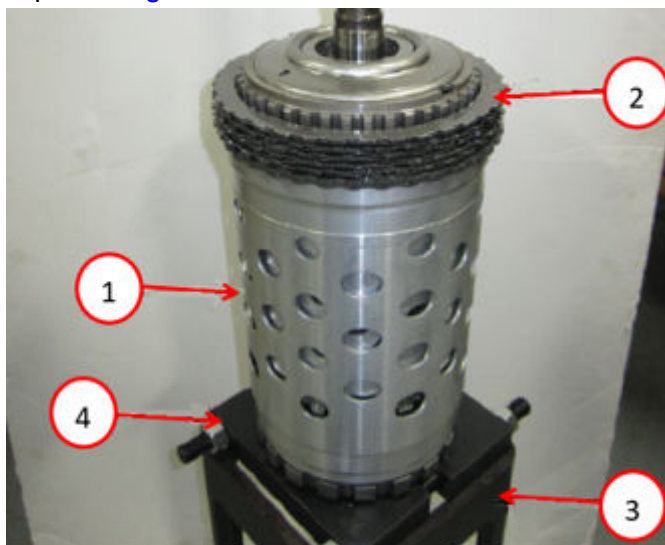

Fig. 34
52. Install the Clutch D discs and plates Fig. 34.